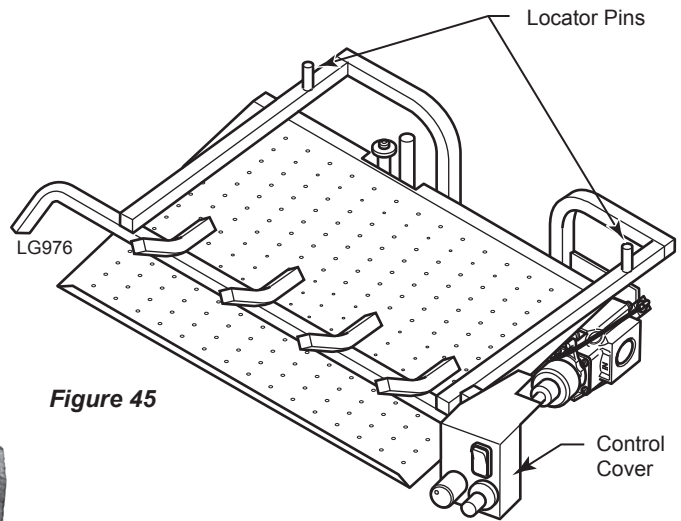

**Figure 44**
- 8. Place front middle log (#8) between the first and second prongs. *Figure 44*